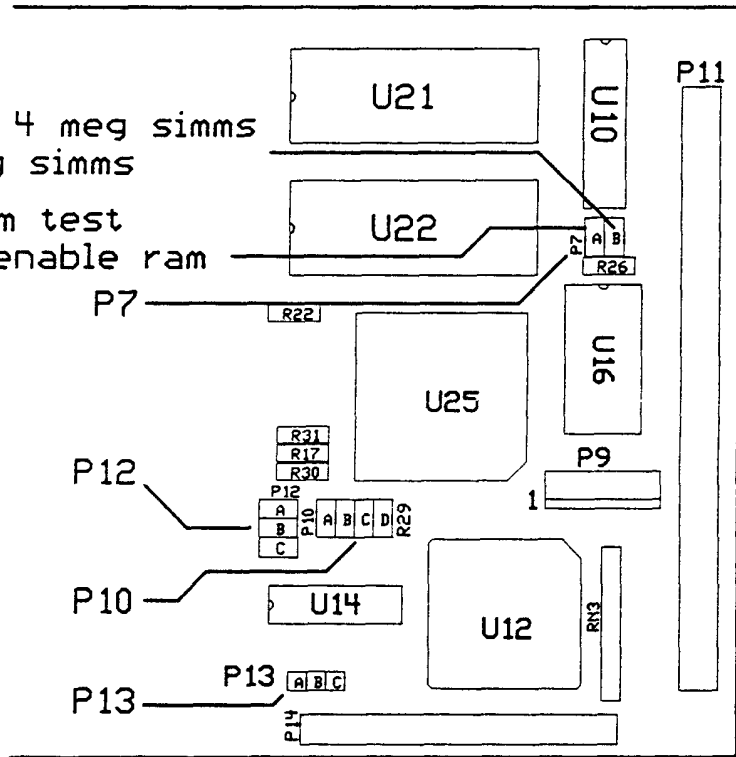
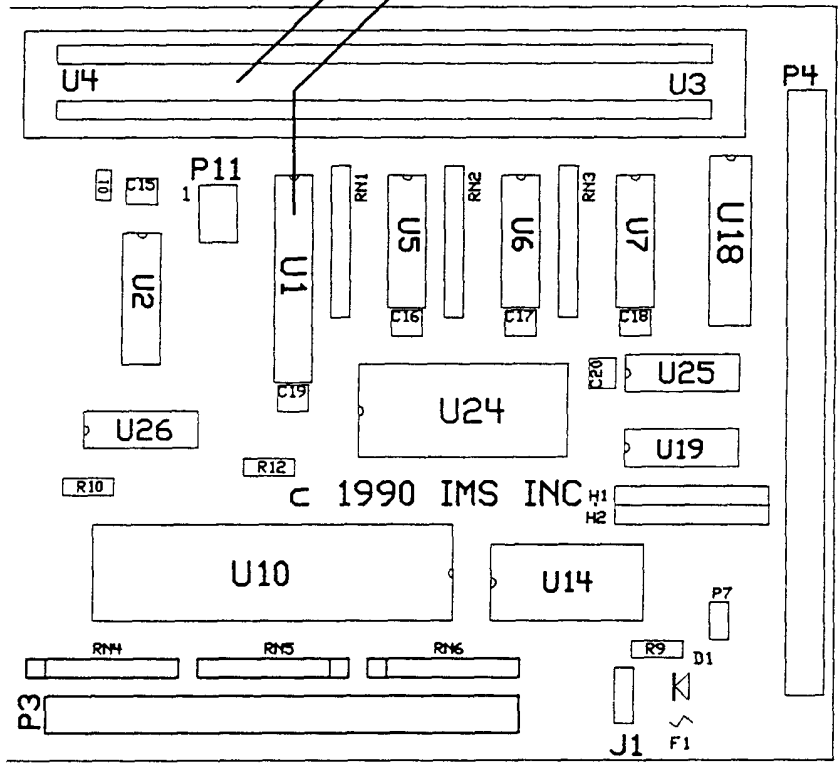

FIGURE 1
FIGURE 2
First, turn off the power to your MM/1 and open the case. If you have an I/O board and it is the uppermost board in the MM/1 board set assembly, remove it. If you have an I/O board, refer to **figure 2** and remove U1, which is a 22V10 PAL. This PAL will not be reinstalled and should be put in a safe place, against a need to restore the I/O board to its original condition. You will need to remove the 1 MByte SIMMS if installed on the I/O board. If you are not yet ready to install additional memory, you will want to run this memory from the new backplane. If you are adding 4 MByte SIMMS now, install them into the SIMM sockets on the new backplane. Next, you should install the jumpers on the MM/1 CPU board, referring to **figure 1**. If you are using 1 MByte Simms install P7 B. If you are using 4 MByte SIMMS remove P7 B. P7A is used to enable or disable the DRAM on the Input-Output and/or backplane boards. If you purchase a memory test program you might need to remove P7A in order to run this test. P11 is a set of jump points located on the new backplane. It is used to set the memory refresh rates. Position 1 is the fastest rate, and position 3 is the slowest. Each time you move the jumper from a lower position to a higher one, you slow the refresh rate by a power of two. It is recommended that you use SIMMS with a speed rating of 80ns in your MM/1.
3. Are the jumpers installed correctly on the CPU board? Refer to **figure 1**.